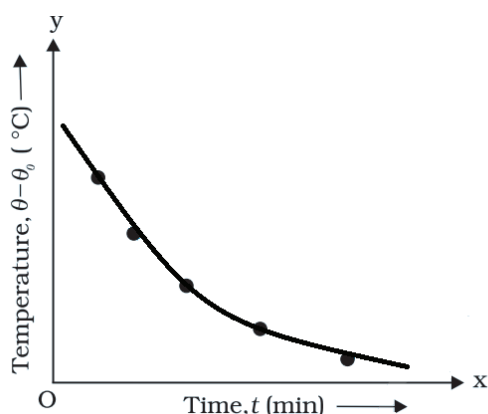

Figure 2
1. Plot a graph between  $(\theta - \theta_0)$  and 't' as shown in figure 2 taking 't' along x-axis and  $(\theta - \theta_0)$  along y-axis. This is called cooling curve.